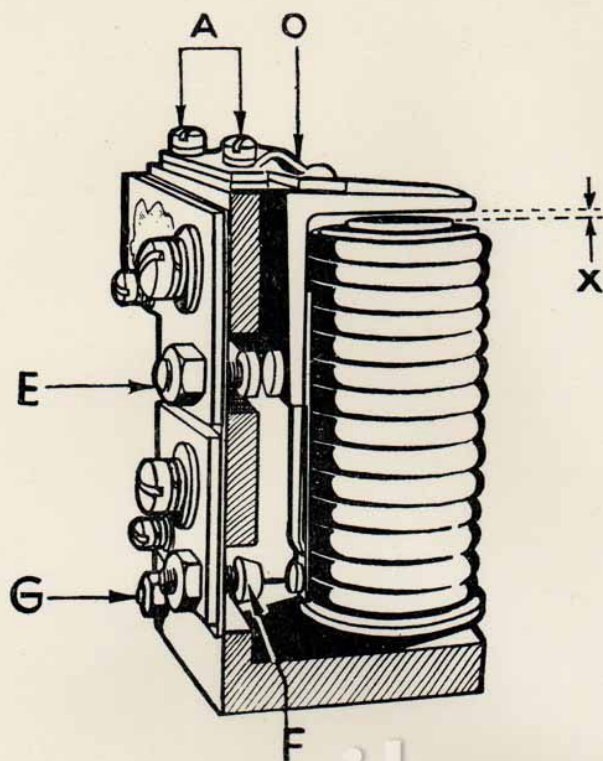

FIG. 13. THE CUT-OUT.
1. Slack off screws (A) attaching flat spring to frame. See Fig.13.
2. Separate main contacts (E) and auxiliary contacts (F).
6. Tighten screws (A) attaching armature spring to frame.